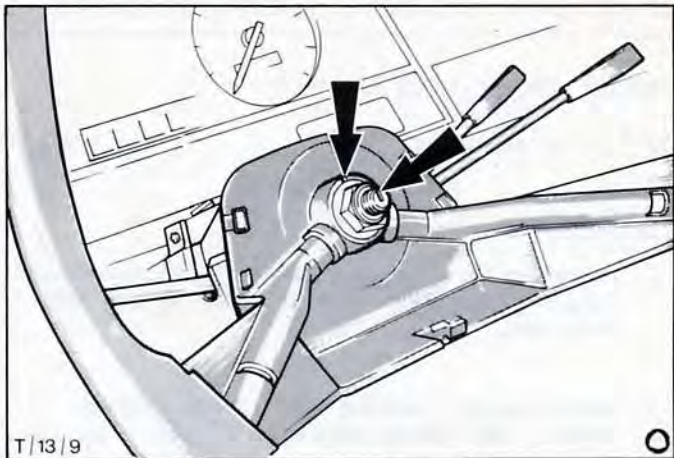

Fig.45. Centralise steering wheel shaft 12 o'clock position.
- 7. Determine steering gear mid-point of travel (total number of turns from lock to lock 5,5 for a 20:1 gear and 6,5 for 24:1 gear) the steering shaft alignment mark being at 12 o'clock. Centralise steering wheel to shaft. (see Operation 13 523) Fig.45.